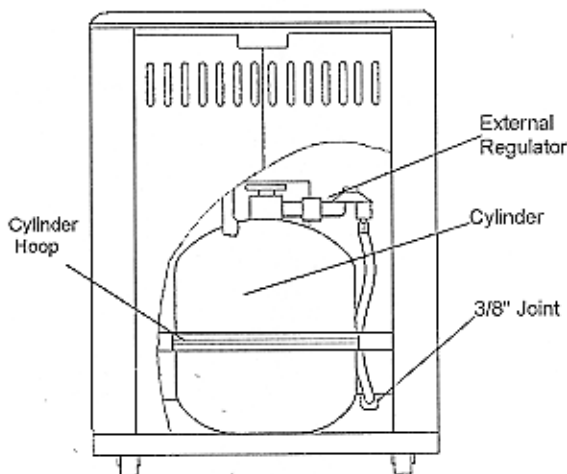

Figure 4 -Gas Connection to Cylinder
5. Connect the other side of the regulator to the outlet of the cylinder and securely tighten it (see Figure 4) .